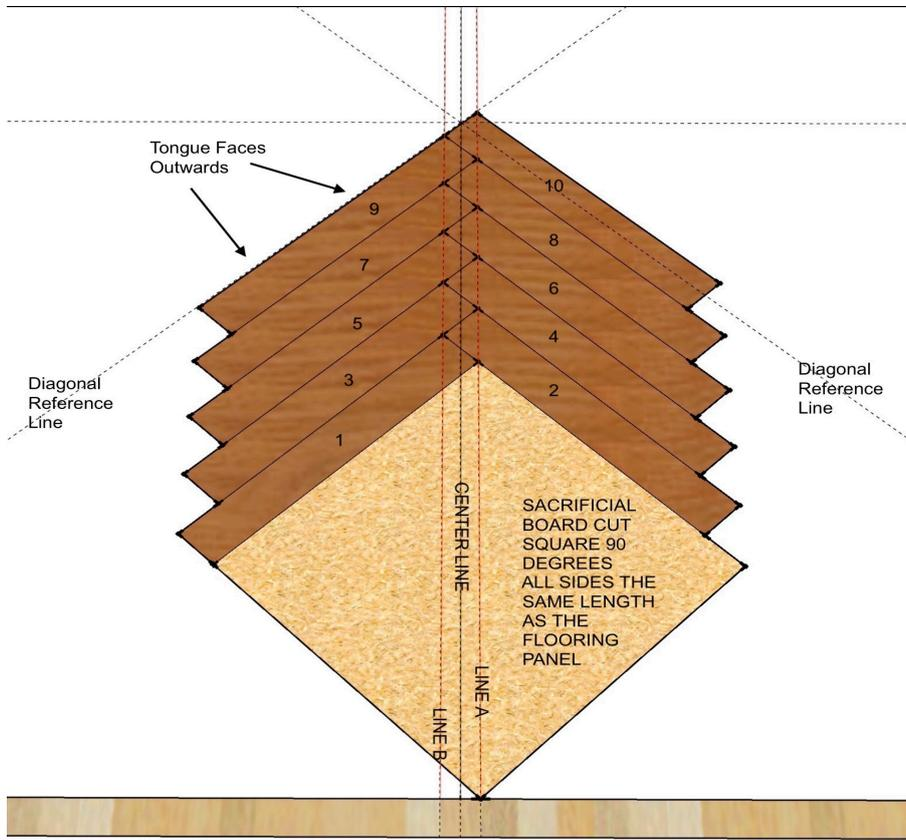

Figure 3
3. To begin installation on working Line A (See Fig.3 on page 6), cut a square piece of plywood the size of the herringbone pattern. For example, if the herringbone pattern is 3" x 12", cut a 12" x 12" square of plywood.
5. Figure 3 shows the planks number in sequence of installation to start of the installation. Start with the tongue toward the build direction. Groove side of plank no 1 facing the plywood square.